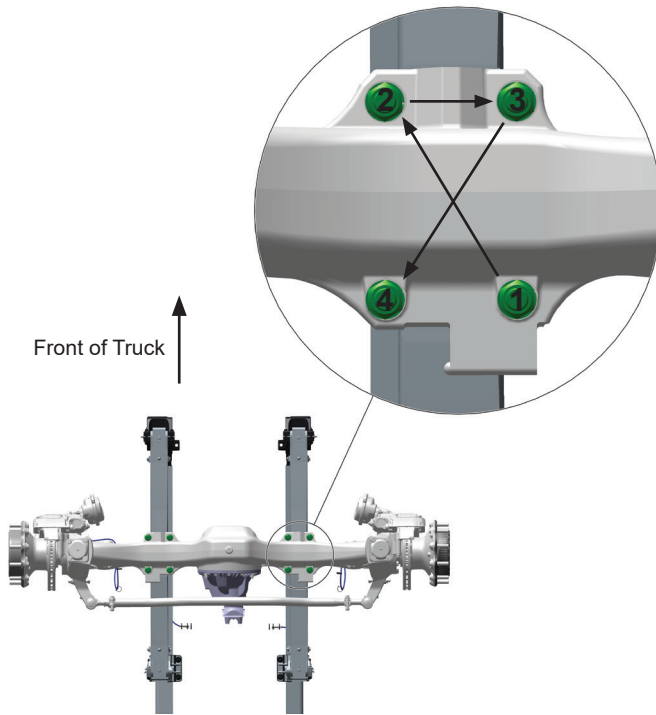

Figure 3
9. Tighten left and right U-bolt groups evenly using 200 ft. lbs. increments to 600 ft. lbs. Follow torque sequence in Figure 3.